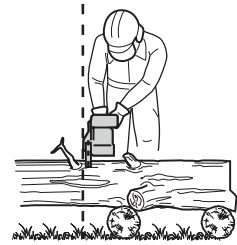

Fig. 20
2. Always hold the product firmly with both hands; front handle (2) with the left hand and rear handle (1) with the right hand. Fully grip both handles at all times during operation. Never operate the product using only one hand.
3. Only use the product with a secure stance. Hold the product at the right-hand side of your body (Fig. 20).